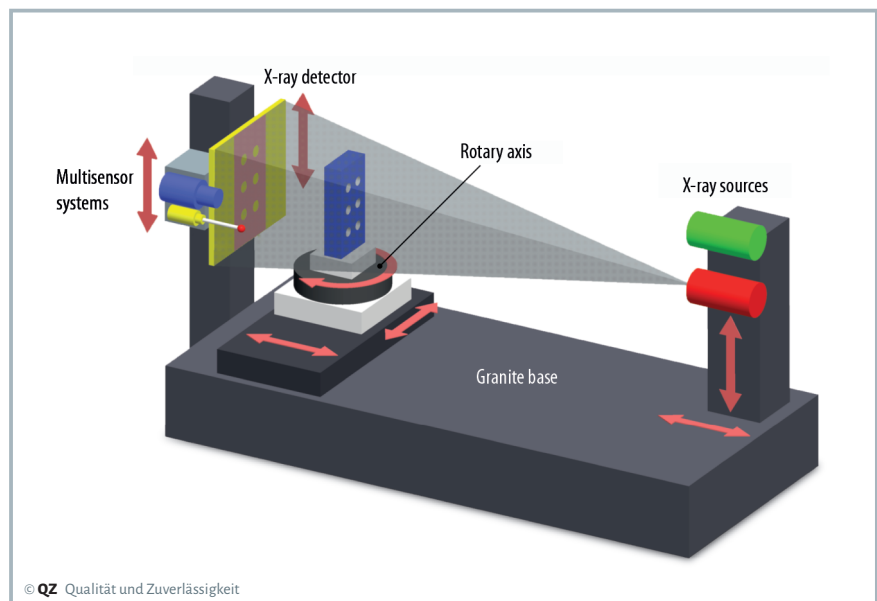

Figure 1. Structure of a coordinate measuring machine with computed tomography (Source: Werth Messtechnik)
IN COORDINATE measuring machines with computed tomography (CT), the workpiece is positioned between the X-ray source and the detector (Figure 1). Rotation of the workpiece allows 2D radiographic images to be recorded from various different directions. The X-ray radiation is attenuated, depending on the material and radiographic length. A mathematical method is applied to the radiographic images to reconstruct a 3D model of the workpiece. This model is composed of three-dimensional voxels (volume pixels) and is therefore also referred to as the voxel volume.
The detector and the X-ray source have a critical influence on the structural resolution. The size of the detector limits the size of the measurement range for measurements „in the image“, as the entire workpiece must fit into the cone beam between the focal spot of the X-ray source and the detector (Figure 1). The size and number of pixels (resolution) of the detector determines how finely the workpiece or the capture portion of the workpiece is resolved by the 3D voxel raster.